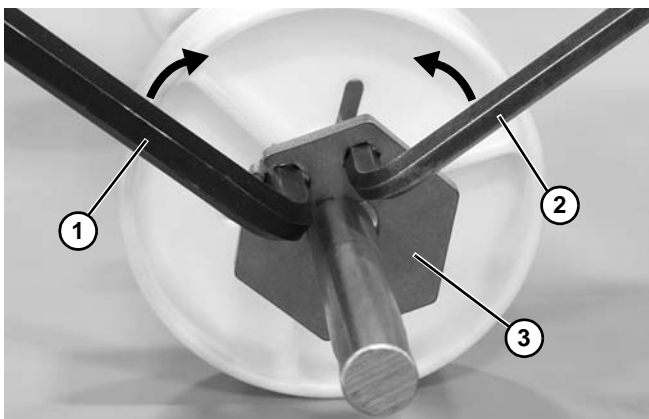

Figure 205
- a. Insert an 8 mm (Figure 205, item 1) and 6 mm (Figure 205, item 2) hex wrench into the retainer plate.
- b. Move wrenches toward each other to open the retainer plate (Figure 205, item 3) and install onto the shaft. Position retainer plate where needed.